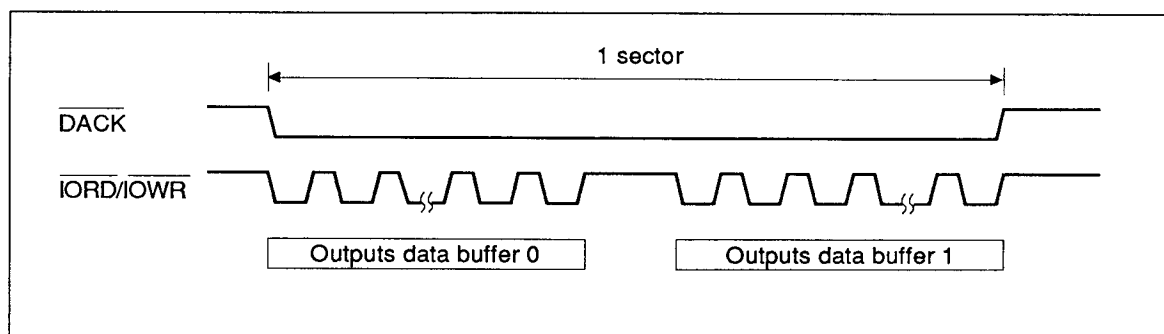

Figure 4 Negation of  $\overline{\text{IORD/IOWR}}$
5. If a sector is 545 bytes or longer, the negation width of  $\overline{\text{IORD}}$  or  $\overline{\text{IOWR}}$  increases while data buffers are switched, as shown in figure 4.